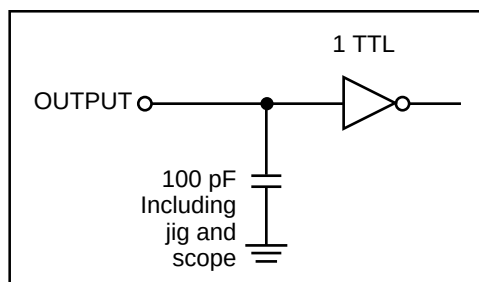

Figure 1
1. Test conditions assume signal transition times of 5 ns or less, timing reference levels of 1.5V, input pulse levels of 0.4V to 2.2V and output loading specified in Figure 1.
| Output Load                                 | See Figures 1 and 2 |